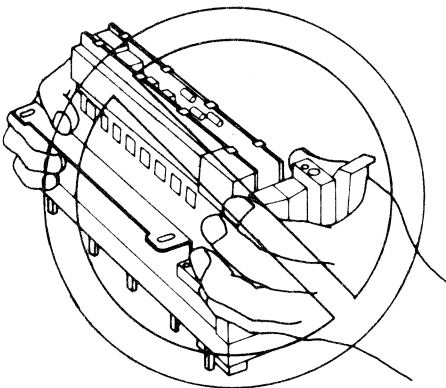

Figure 3
- Do not touch the tape path area, as shown in Figure 3.